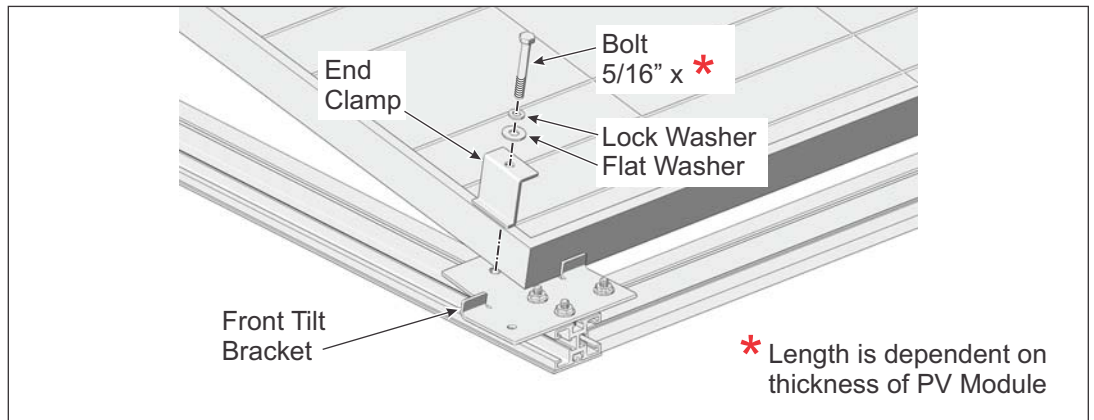

Figure 14-4: Installing an End Clamp on a Front Tilt Bracket
- J. Insert one 5/16 x XX inch bolt (length is dependent on thickness of PV Module) along with flat and lock washers through the End Clamp and thread into the Tilt Bracket. **Torque to 14-18 ft-lbs.** (See Figures 14-4 and 14-5)